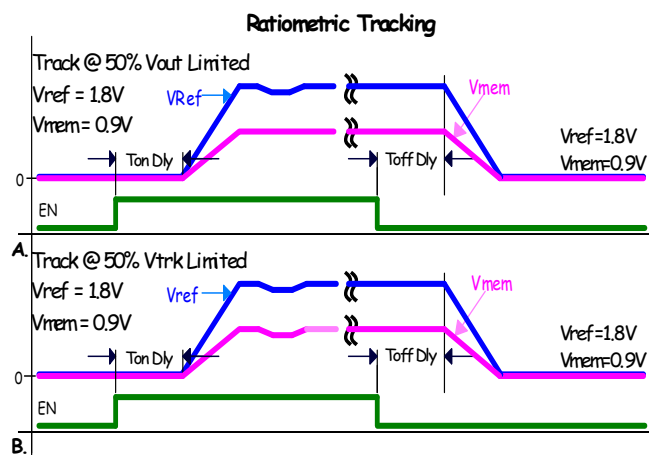

FIGURE 23. RATIOMETRIC TRACKING
- Track at 50% V_{OUT} limited. Member rail tracks the reference rail and stops when the member reaches 50% of the target voltage Figure 23 (A).
- Track at 50% VTRK limited. Member rail tracks the reference at the instantaneous voltage value applied to the VTRK pin until the member rail reaches 50% of the reference rail voltage, or if the member is configured to less than 50% of the reference the member will achieve its configured target Figure 23 (B).
TABLE 13. TRACKING CONFIGURATION (Figure 23 (A))
TABLE 14. TRACKING CONFIGURATION (Figure 23 (B))